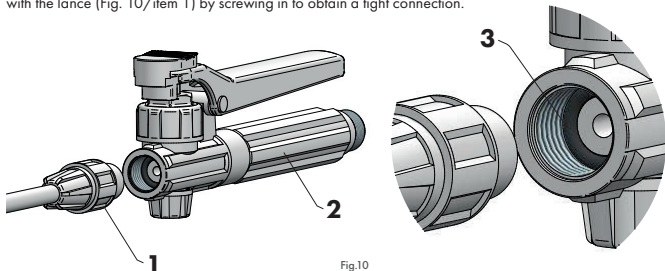

Fig.10
Check that the piston valve body (Fig. 10/item 2) is equipped with an O-ring (Fig.10/item 3) and connect it with the lance (Fig. 10/item 1) by screwing in to obtain a tight connection.